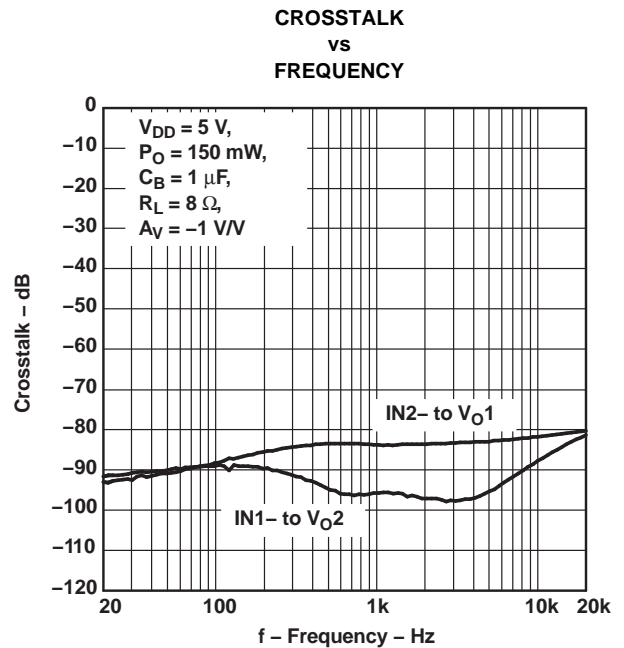

Figure 24.
- Changed Figure 24, From: frequency limit at 1M To: frequency limit at 20K **10**